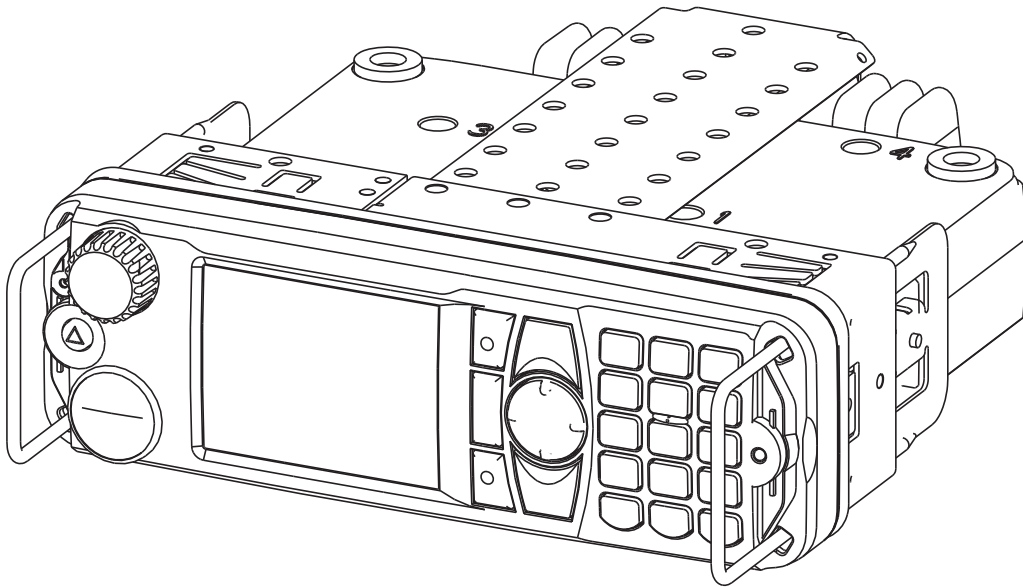

Figure 9 Removing the Radio from the Frame
2. Insert the demount tool into the two openings as shown in Figure 9 below.